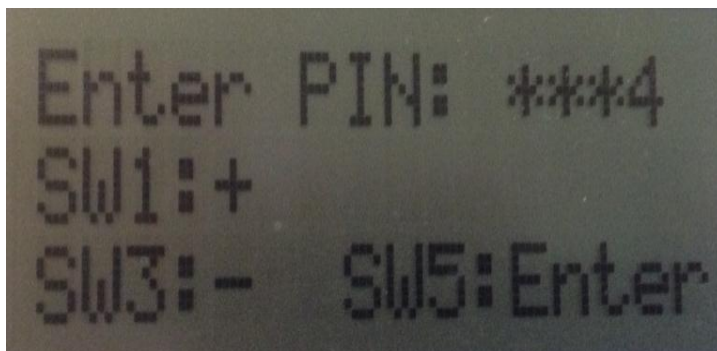
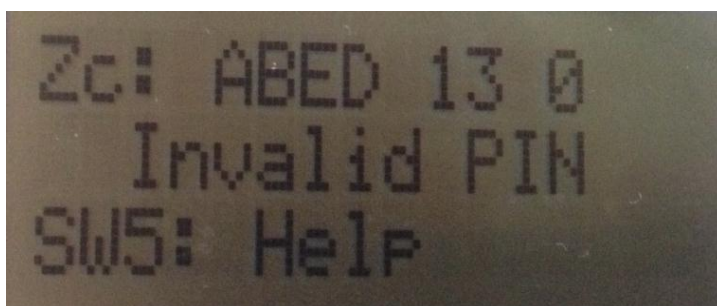

Figure 32: Setting SampleDoorLock PIN
Figure 34: SampleDoorLock showing Invalid PIN update
- Master PIN is stored on the SampleDoorLock. Both devices have a default PIN of “1234”. This PIN must match in order for the SampleDoorLockController to successfully lock/unlock the SampleDoorLock. To change the default pin, consult section 2.4.2. **Figure 32** shows change pin snapshot. If the PIN sent to the SampleDoorLock is invalid, the display will appear as shown in **Figure 34**